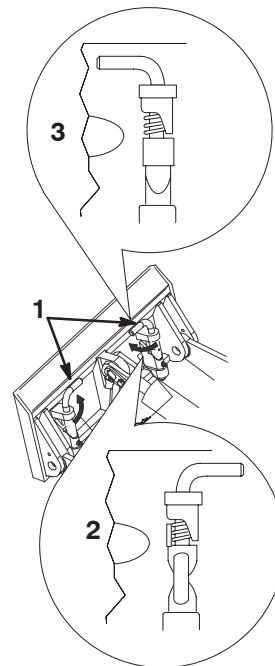

Figure 26
- Engage the quick attach pins, ensuring that they are fully seated in the mount plate (Fig. 26).